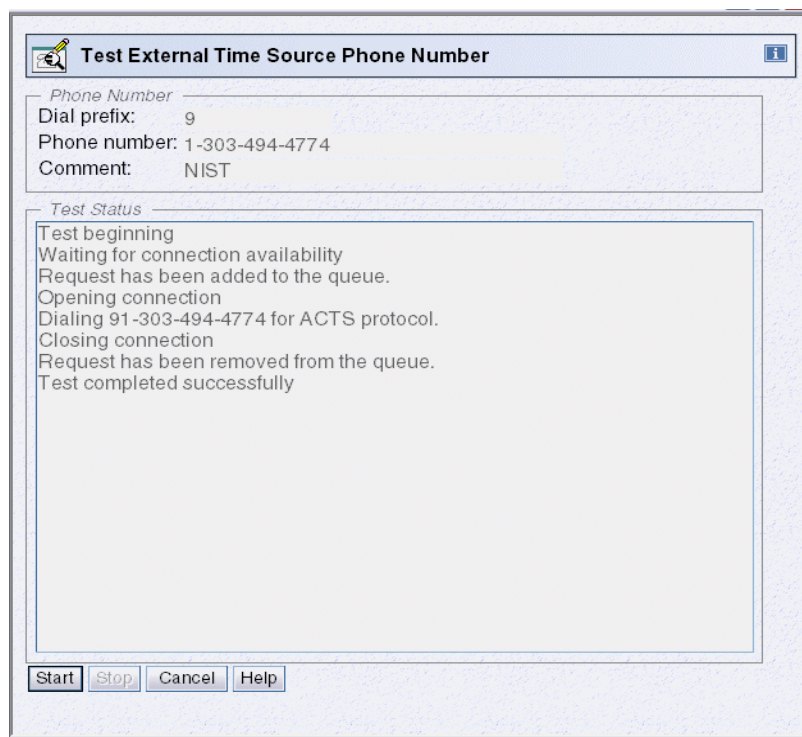

Figure 1-61 Test External Time Source Phone Number
6. When the dial out phone number has been added, the **Test** button in the Customize Outbound Connectivity window becomes selectable and must be used to ensure that the correct configuration and connectivity to the time service provider has been accomplished (Figure 1-61).